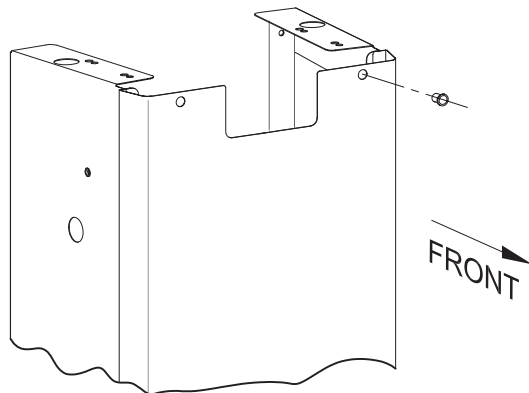

Figure 6
6. Insert bushing in the front panel on the right for P and H series and on the left for R and T series grills. See Figure 6.